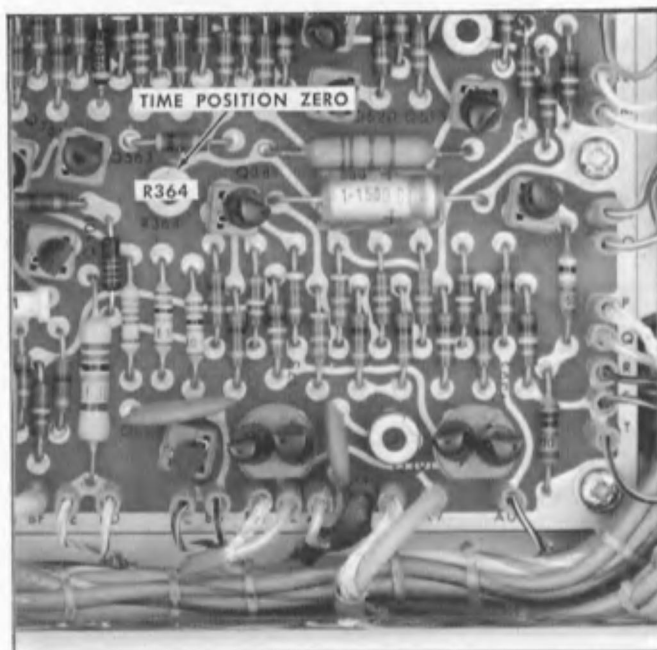

Fig. 7-25. Location of Time Position Zero adjustment, Logic Board Assembly, left side of instrument.
- d. Adjust R364, TIME POSITION ZERO, (Fig. 7-25 shows the location) for the most counterclockwise setting possible with the TIME POSITION control fully clockwise and the start of the sweep at the left edge of the graticule.